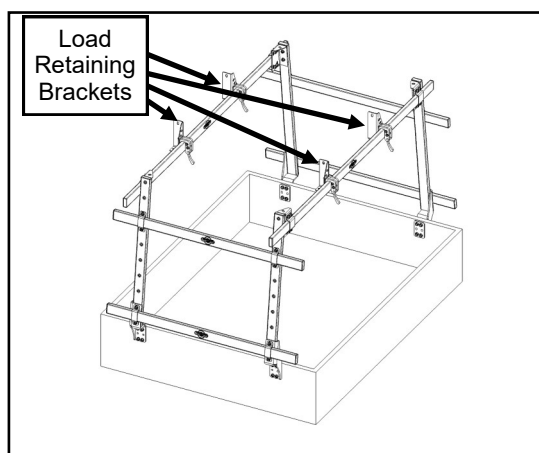

Fig. 10
10. See fig. 10. Install the *cam lever actuated* Load Retaining Brackets onto the cross bars (ref.: 68" long tube) as shown. These brackets can be loosened quickly by simply lifting the cam lever. Slide them snug against any load being transported on top of the rack (ladders, wood, kayaks, etc.). Lower the cam lever to lock in place.